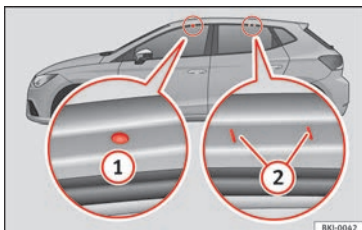

Fig. 172 Attachment points for the roof railings for the roof carrier system.
The front and rear attachment points ① and ② are only visible when the doors are open »» Fig. 172.